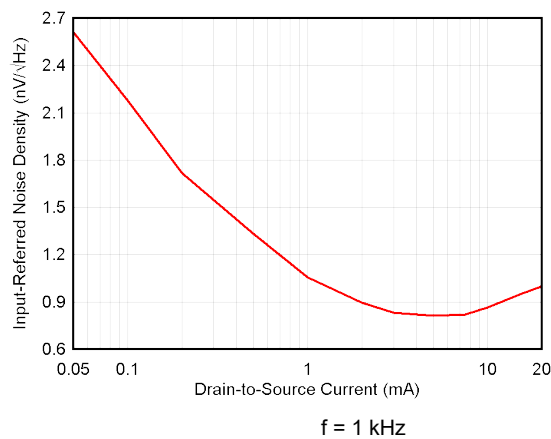

Figure 6-11. Input-Referred Noise Spectral Density vs Drain-to-Source Current
- The JFE150 bias current is set by selecting the desired bias current and noise tradeoff (see Figure 6-11). The input-referred noise is dominated by the JFE150 bias current and gain. To set the bias current point, adjust the source resistance according to Figure 9-3.